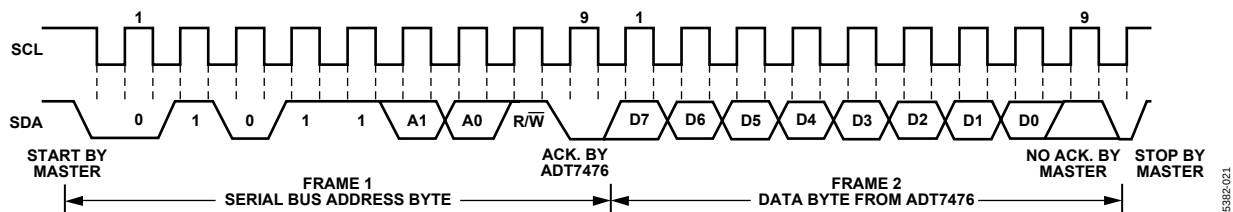

Figure 20. Reading Data from a Previously Selected Register
A read operation is then performed consisting of the serial bus address, $R/\overline{W}$ bit set to 1, followed by the data byte read from the data register (see Figure 20.)
- If the address pointer register is already at the desired address, data can be read from the corresponding data register without first writing to the address pointer register (see Figure 20).